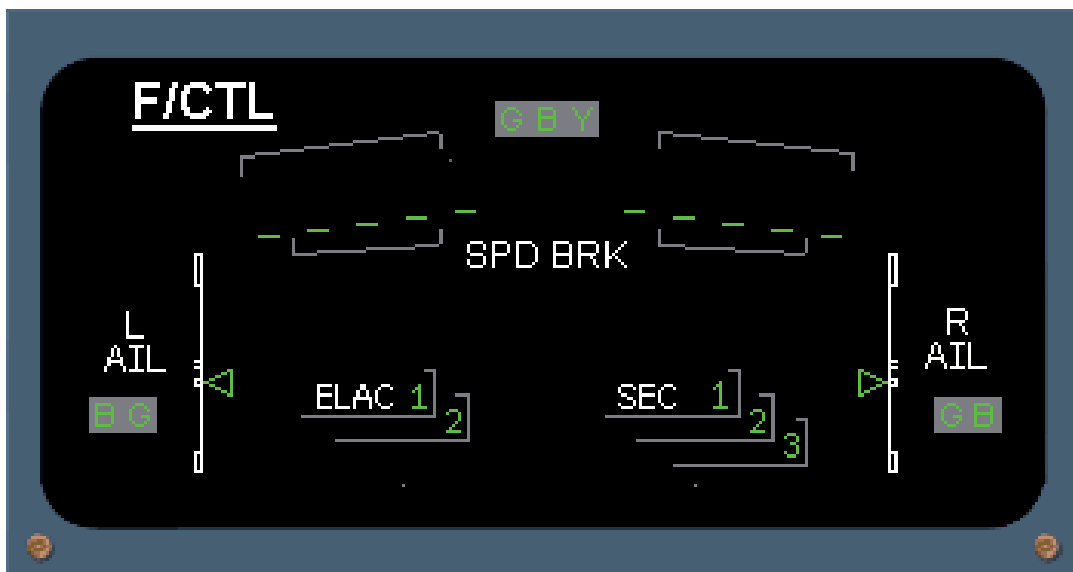

Figure 2: All GREEN after SEC reset
i.e. F/CTL SPOILER FAULT cleared and spoilers 5 were displayed back to GREEN on the F/CTL page (fig.2).